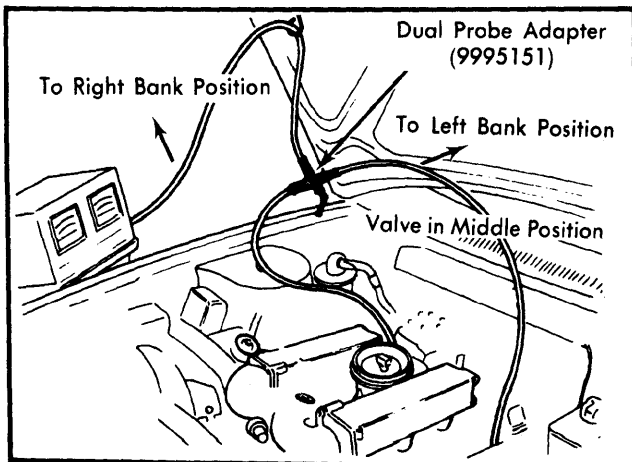

Fig. 3 CO Meter Installation
- 2) Remove plugs from header pipes (1 for each cylinder bank) and connect CO probe (5151) to each pipe. See Fig. 3. Connect tachometer and start engine. Run engine until normal operating temperature is reached and adjust idle speed to specification.